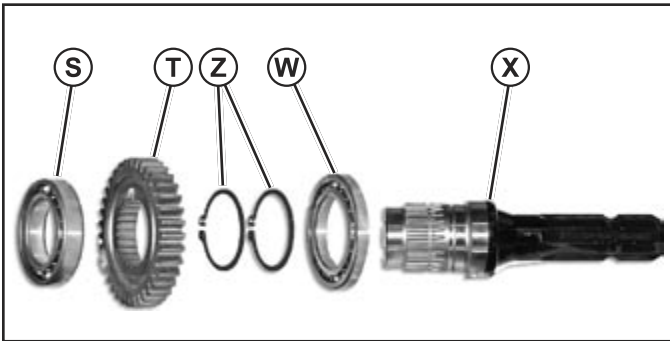
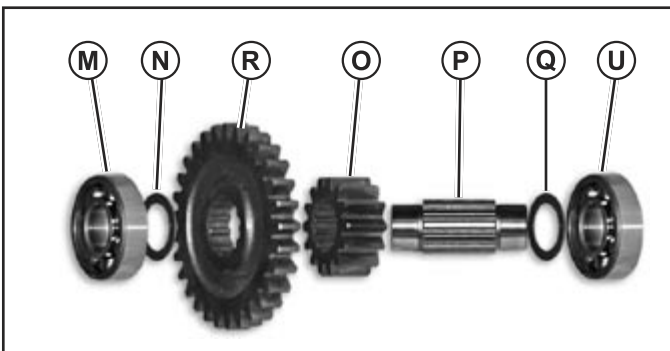
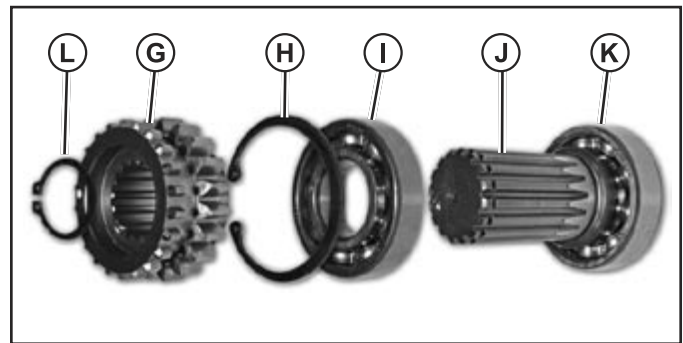
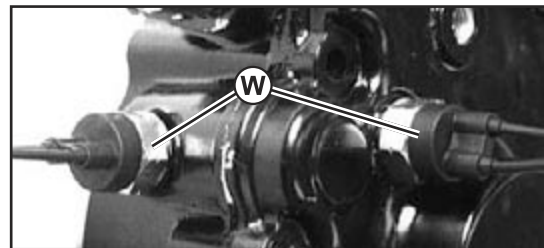

Fig. 33, Rear PTO Shaft Disassembly
Fig. 34, Rear PTO Pinion/Input Gear Disassembly
Fig. 35, Rear PTO Idler Gear Disassembly
Fig. 36, Ball Switches
11. Remove press bearing (S) from the PTO shaft (X); then, remove PTO gear (T), snap rings (Z), and press bearing (W) from PTO shaft. Inspect all components for wear or damage, replace as necessary. (Fig. 33)
12. Remove press bearing (M) from idler shaft (P). Remove washer (N), PTO input gear (R), and idler pinion gear (O). Remove press bearing (U) and remove washer (Q) from idler shaft (P). Inspect all components for wear or damage, replace as necessary. (Fig. 34)
NOTE: If rear PTO input gear (R), see fig. 34, replacement is necessary, the shift collar (F), see fig. 36, and rear PTO idler gear (G), see fig. 35, must be replaced also. The three gears are available as a set. Rear PTO gear (T), see fig. 33, and rear PTO idler pinion (O), see fig. 34, must be replaced as a set.
13. Remove snap ring (L), idler gear (G), snap ring (H), press bearing (I), and press bearing (K) from shaft (J). Inspect all components for wear or damage, replace as necessary. (Fig. 35)
14. If necessary, remove ball switch (W) and O-ring. (Fig. 36)
- If removed, install O-rings and ball switches (W). DO NOT overtighten. Tighten to 34 N•m (25 lb-ft).